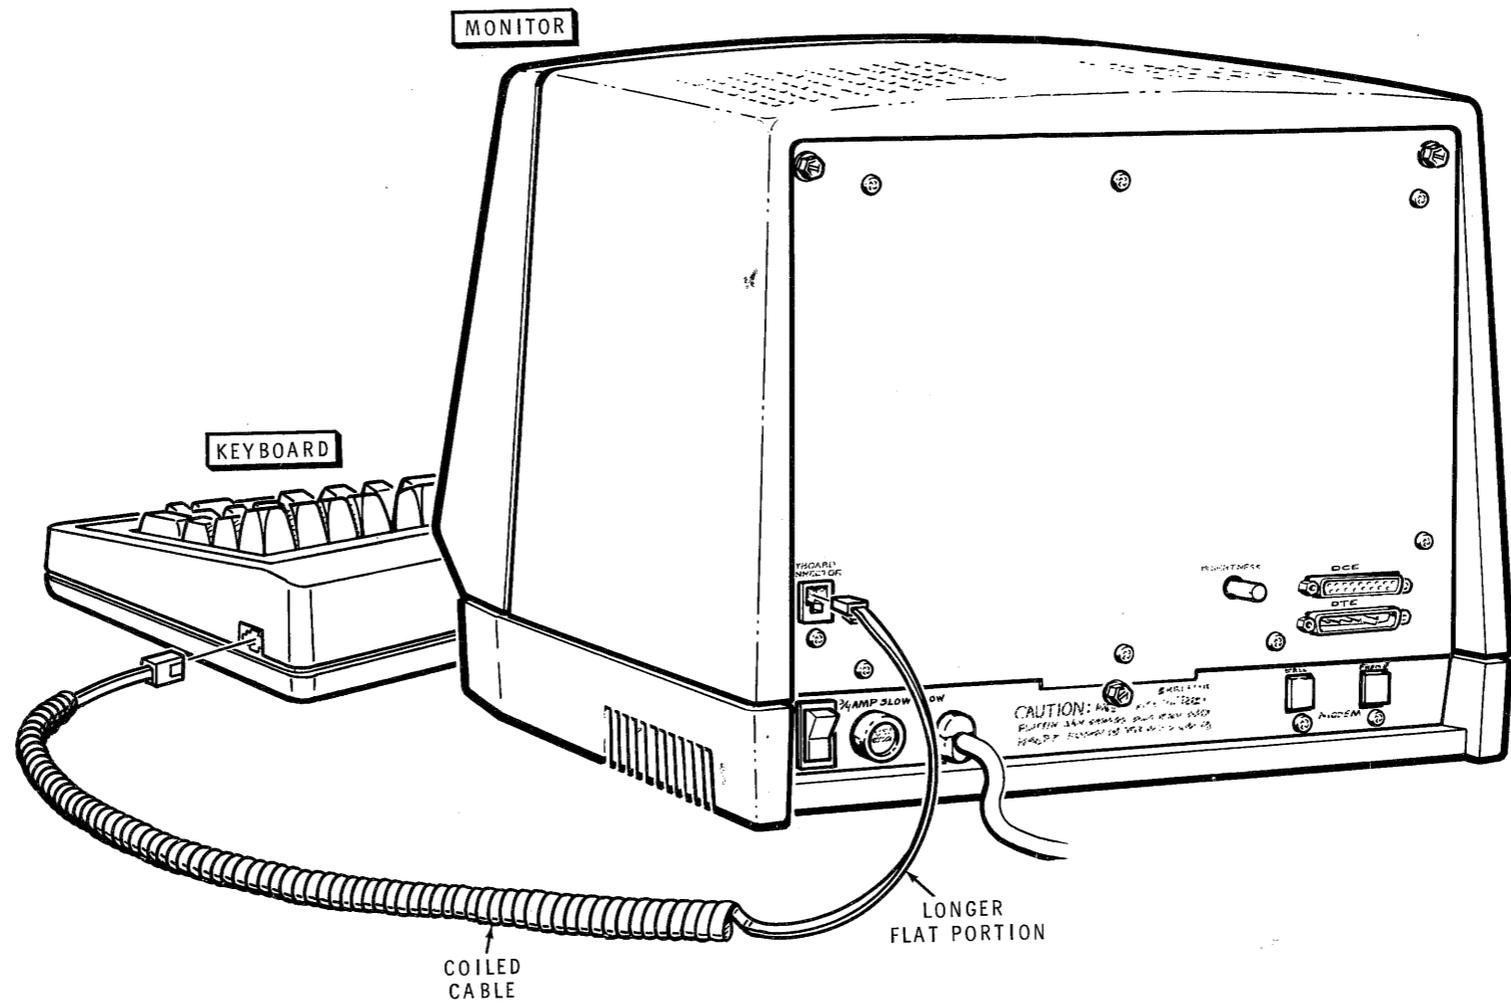

Figure 3-1
1. Position the monitor on your work surface so you are viewing the rear panel as shown in Figure 3-1.